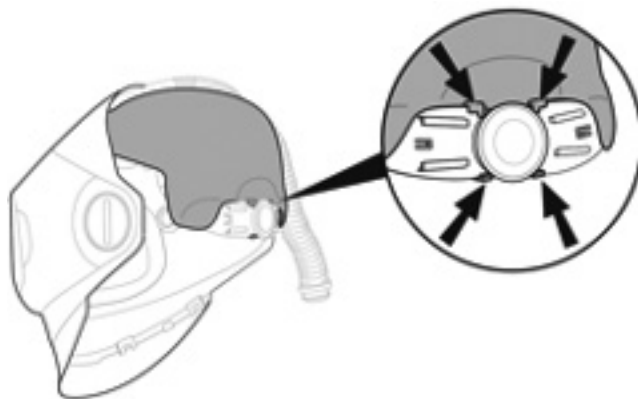

Fig. 21
- b. Press on the legs of the scrape guard until they click into place (Fig. 21).